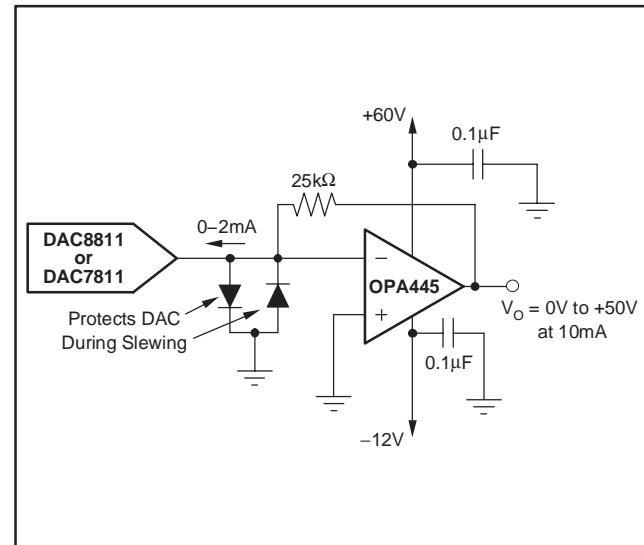

**Figure 14. 8-Pin PowerPAD PCB Etch and Via Pattern**
3. Place recommended holes in the area of the thermal pad. Recommended thermal land size and thermal via patterns for the SO-8 DDA package is shown in Figure 14. These holes should be 13 mils in diameter. Keep them small, so that solder wicking through the holes is not a problem during reflow. The minimum recommended number of holes for the SO-8 PowerPAD package is five.